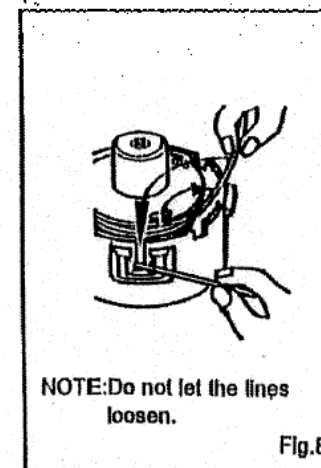

Fig.8
9. Pull the cord down into the open eyelets. (fig.8)